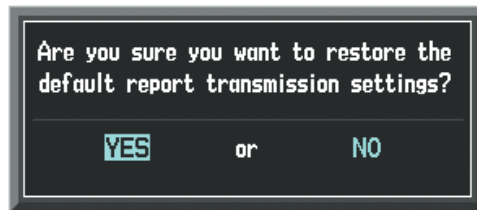

Figure 8-121 Restore Defaults Confirmation
- 4) A confirmation window as shown in Figure 8-121 is now displayed.